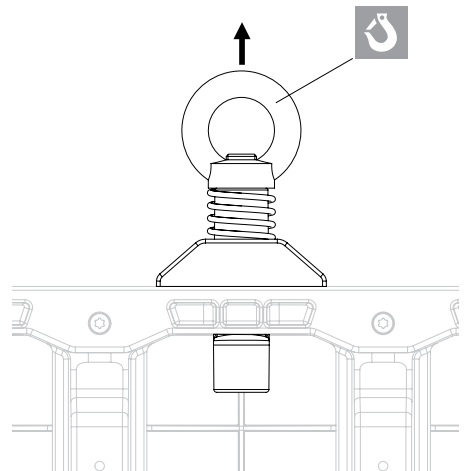

Fig. 9
- Spring force clamps the Crane Eye DUO in a safe position on the panel. (Fig. 9)
After assembling the Crane Eye DUO, this becomes an integral part of the load. The Crane Eye DUO remains attached to the element after being moved with the crane. (Fig. 9)